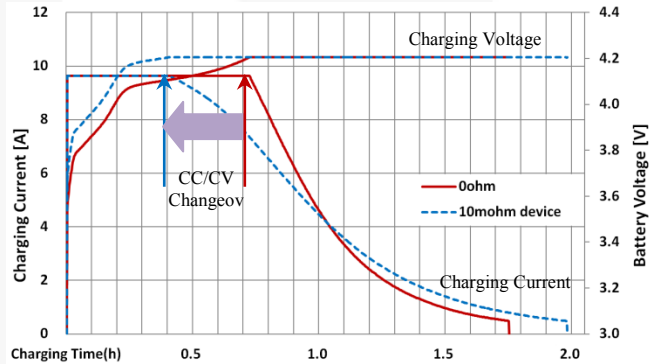

Figure 4. Charging Time Effect by Battery Switch RDS(ON) Variation (9700 mAh, 1C Charging)
Figure 4 shows charging time variations by the battery switch RDS(ON) at high charging current, 9.7 A. For example, a 10 mΩ battery switch increases charging time by 15 minutes (14%) longer to fully charge the single 9,700 mAh, Li-ion battery cell because the MOSFET voltage drop moves the CC / CV changeover point earlier and increases the charging time.